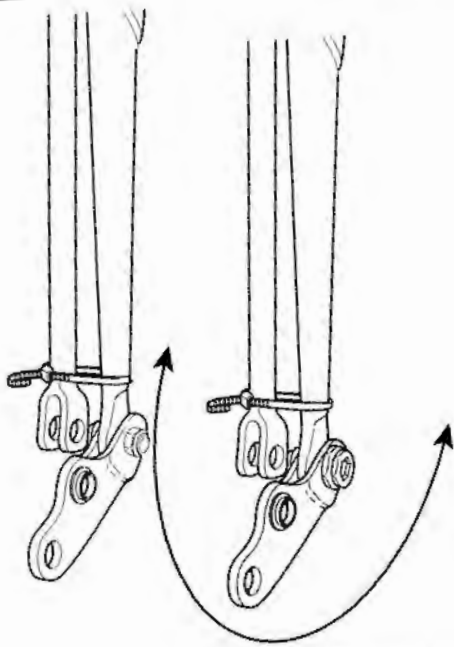

Figure 1-52. Rocker Rotation
9. See Figure 1-52. Using a dial or beam type torque wrench, rotate the rigid fork pivot stud and rocker through the arc shown. The torque reading should be 25-35 in-lbs (2.8-4.0 Nm).